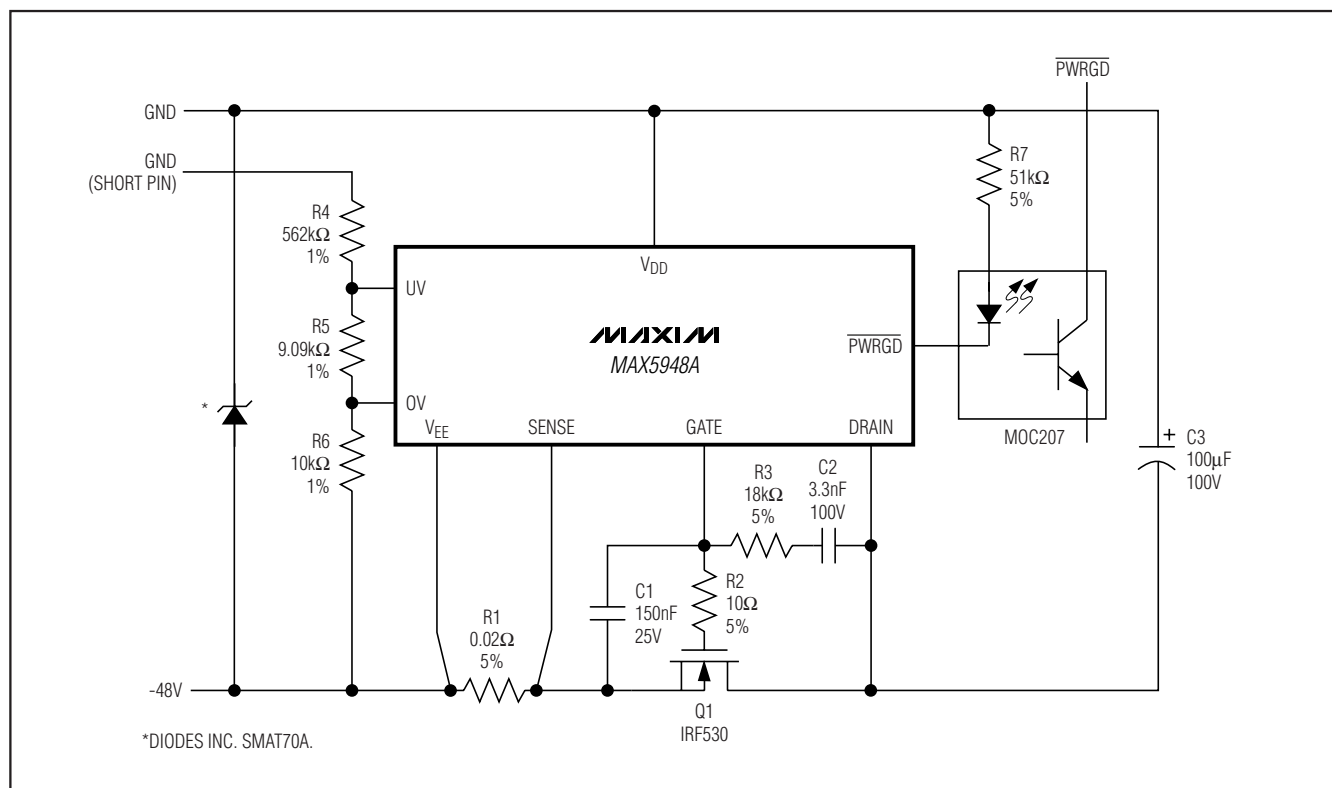

Figure 14. Using $\overline{\text{PWRGD}}$ to Drive an Optoisolator
- If an optocoupler is utilized as in Figure 14, determine the LED series resistor: